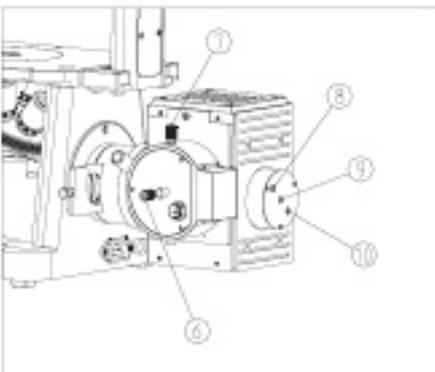

Figure 19
(6) Adjust focusing screw 9 for reflecting lens, horizontal centering screw 8 for reflecting mirror, vertical centering screw 10 for reflecting lens to make the bulb reflected image on white paper. (Fig. 19, 20b)
(7) Adjust screw 8 and 10 to make the bulb image and bulb reflected image symmetry. Adjust screw 10 to make both images with same size. (Fig. 19, 20c)
(8) Adjust screw 6 to make the two images superposition. (Fig. 19, 20a)
(9) Turn 10X objective into light-path and set slide on stage for observation under B1. Find the image and make it clear.
(10) Observe through eyepieces and adjust focusing lock-knob 5 to make view field to best, then lock the knob.